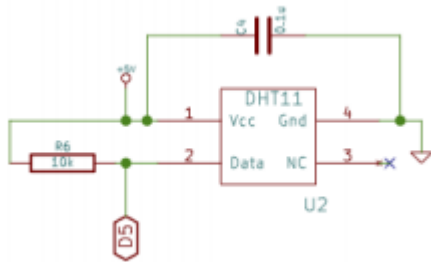

Figure 3: Internal circuit of Integrated DHT11 [3]
4. Figure 3: Internal circuit of Integrated DHT11
The generic sensor has 4 pins namely VCC, Data Output, NC (Not connected) and Ground from left to right direction (See figure 2b). NC is used for the output of humidity. Here as shown in figure 2a integrated sensor there are only three pins VCC, DATA and GND as “not connected” pin is not there. According to circuit shown in figure 3 a pull-up resistor of 5-10K is needed between voltage pin and Data output pins. Capacitor is added between GND and VCC for power filtering.